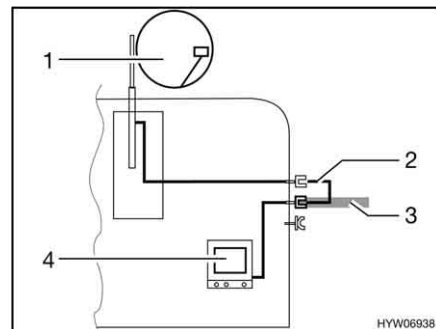

Fig. 153 TV inside the vehicle
- TV inside the vehicle (Fig. 153,4): Connection to roof antenna (Fig. 153,1) with connection cable (Fig. 153,2)
- TV inside the vehicle (Fig. 153,4): Connection to external antenna (Fig. 153,3)